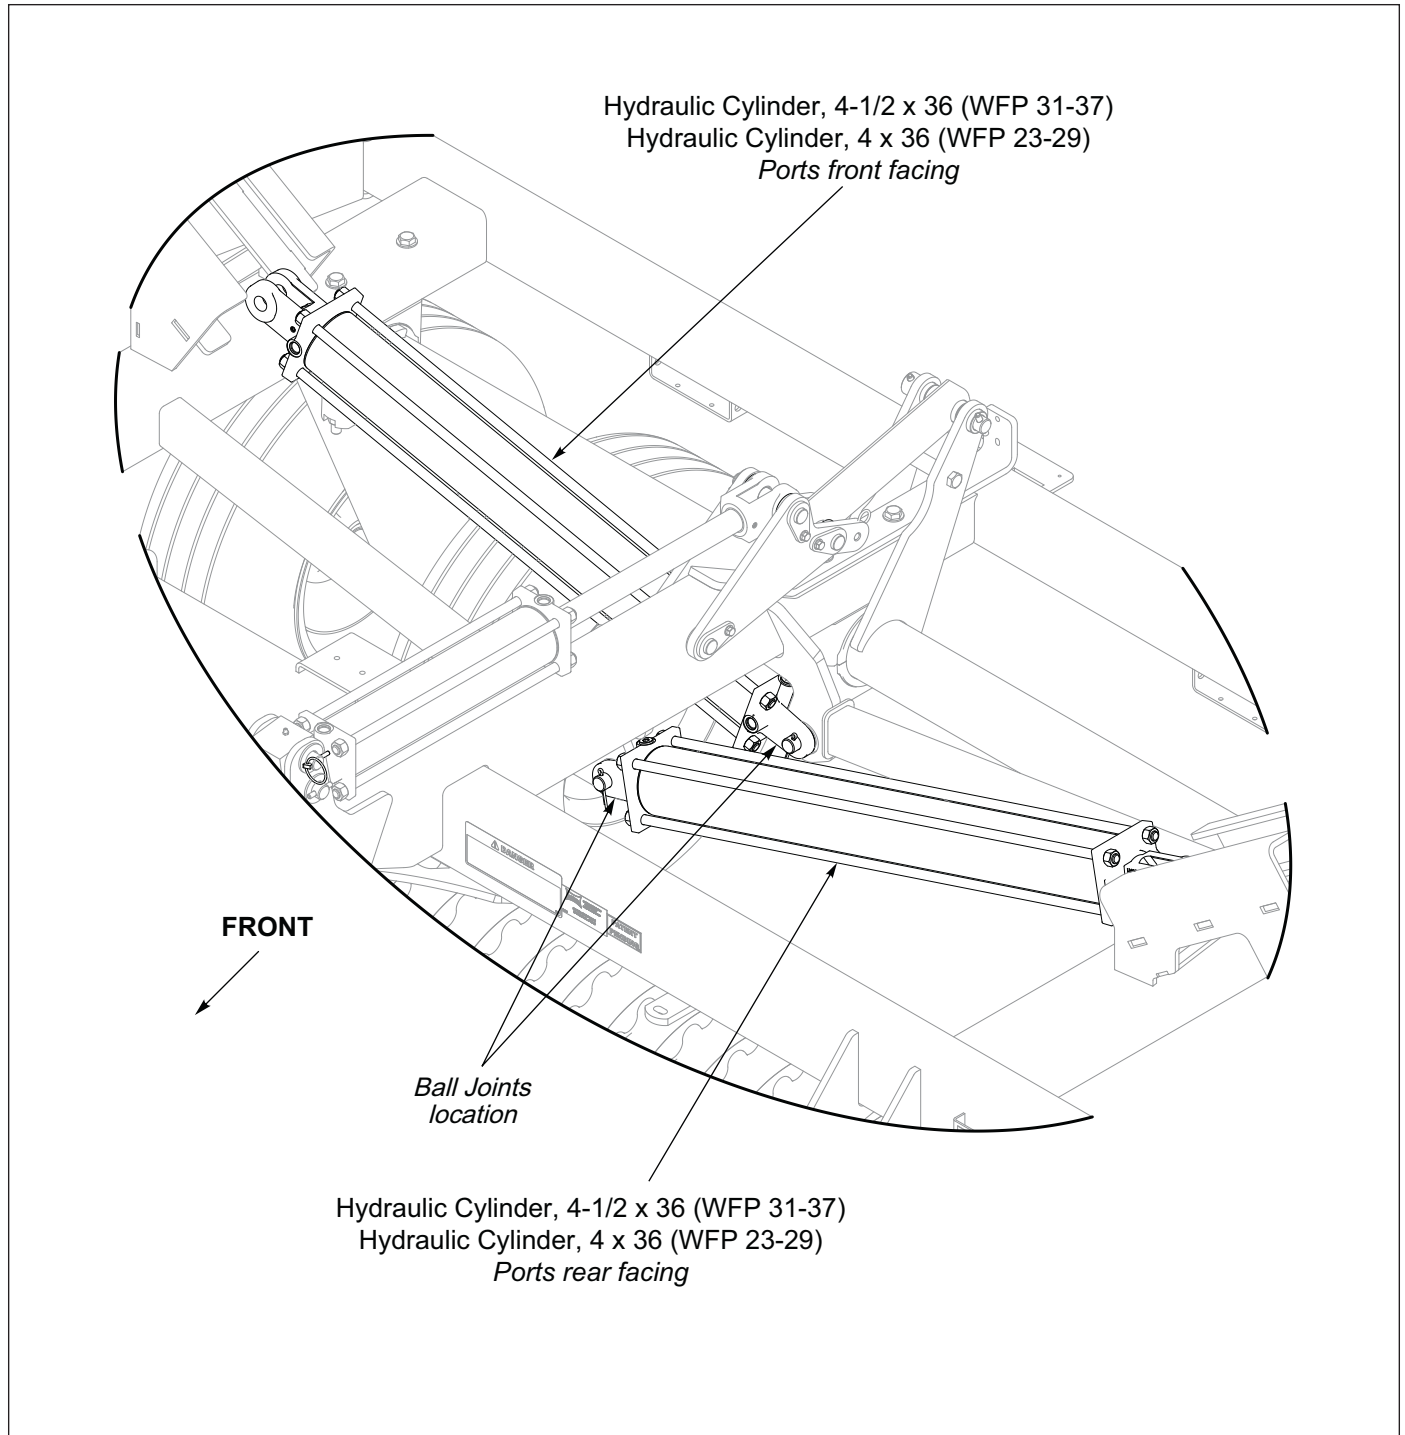

Figure 2-10: Wing Fold Cylinder Installation
3. RH Cylinder ports are front facing and LH Cylinder ports are rear facing. **See Figure 2-10.** Attach base end of the 4 x 36 Hydraulic Cylinder (**WFP23-29**) or 4-1/2 x 36 Hydraulic Cylinder (**WFP31-37**) to the Center Frame Ball Joints with the vendor supplied hardware.